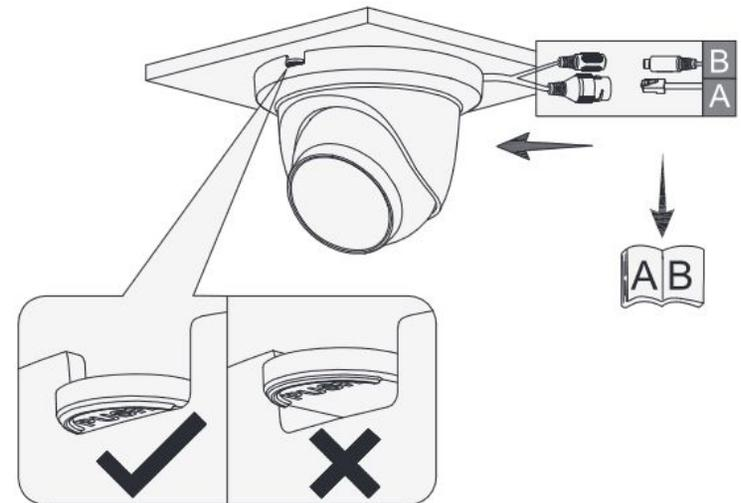

Figure 2-4
**Step 4** Connect the cables to the pigtail of the camera. Make sure the locking tab is set to the downwards position to to secure the base as shown in Figure 2-4.